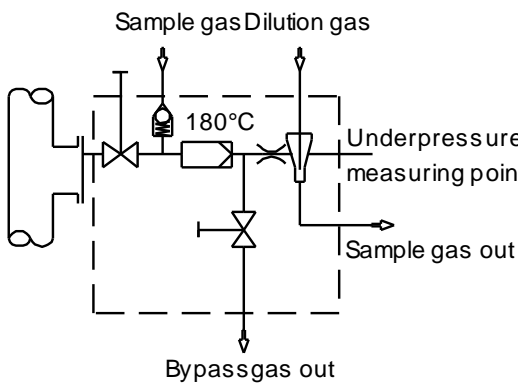

Figure 5 Gas flow schematic of available probe variants
Where a correspondingly small sample gas volume is taken from the process with large dilution factors, an optional heated bypass injector that is integrated directly upstream of the dilution part is available for reducing the response time in atmospheric respectively small vacuum operation. The bypass option is available without gas return **-B** ④ or with gas return to the process **-BR** ⑤. In overpressure operation, a bypass needle valve **-BV** serves as bypass volume adjustment (see Fig. 5).